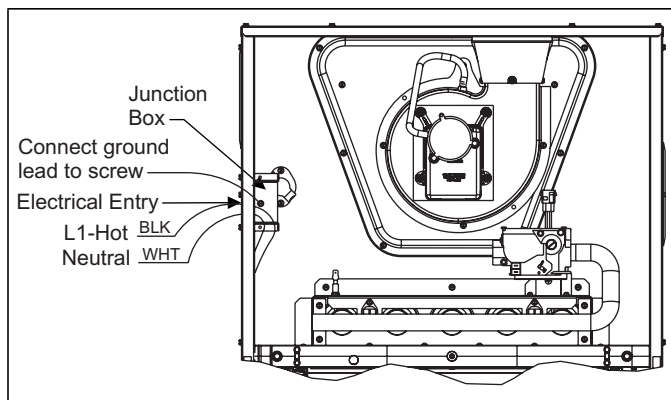

FIGURE 11: Electrical Wiring
2. Remove the screws retaining the wiring box cover. Route the power wiring through the opening in the unit into the junction box with a conduit connector or other proper connection. In the junction box, there is a black wire and a white wire. Connect the power supply as shown on the unit wiring label on the inside of the blower compartment door or the wiring schematic in this section. The black furnace lead must be connected to the L1 (hot) wire from the power supply. The white furnace screw must be connected to neutral. Connect the power supply ground to the green screw (equipment ground). An alternate wiring method is to use a field provided 2 in. (5.1 cm) x 4 in. (10.1 cm) box and cover on the outside of the furnace. Route the furnace leads into the box using a protective bushing where the wires pass through the furnace panel. After making the wiring connections, replace the wiring box cover and screws. Refer to Figure 11.
3. The furnace's control system requires correct polarity of the power supply and a proper ground connection. Refer to Figure 11.